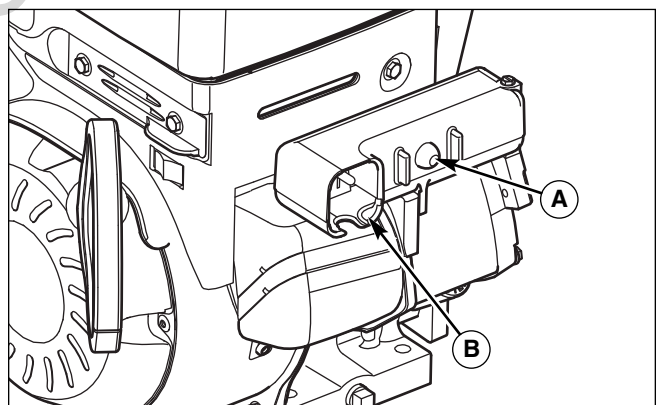

Figure 6. Electric Start
9. **Electric Start:** Depress the push button (A, Figure 6). After you start the engine, first disconnect the extension cord from the wall receptacle and then from the power cord receptacle (B).